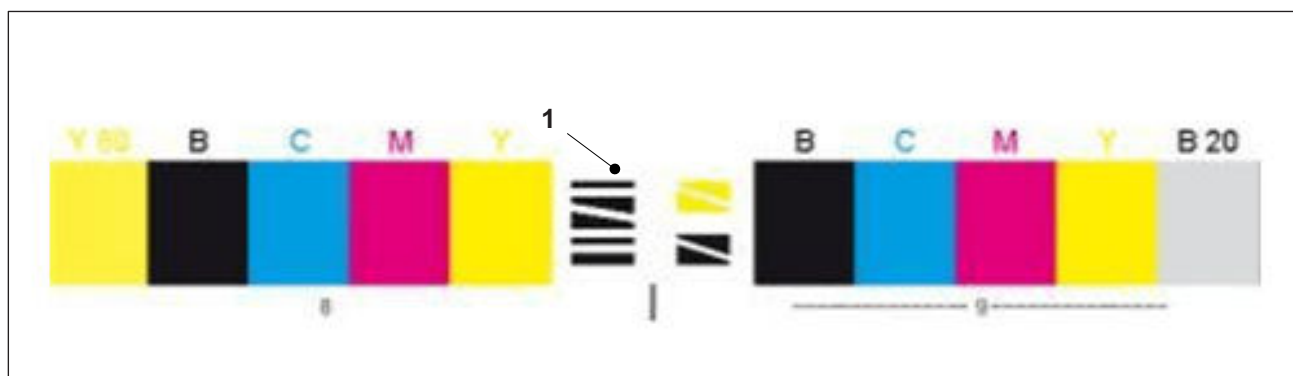

Fig. 20 Position mark, Prinect Inpress Control
- For automatic detection of the quality control strip, position marks (Fig. 20/1) are located on the strip. It is vital that these are in place! Otherwise, the quality control strip will not be found.